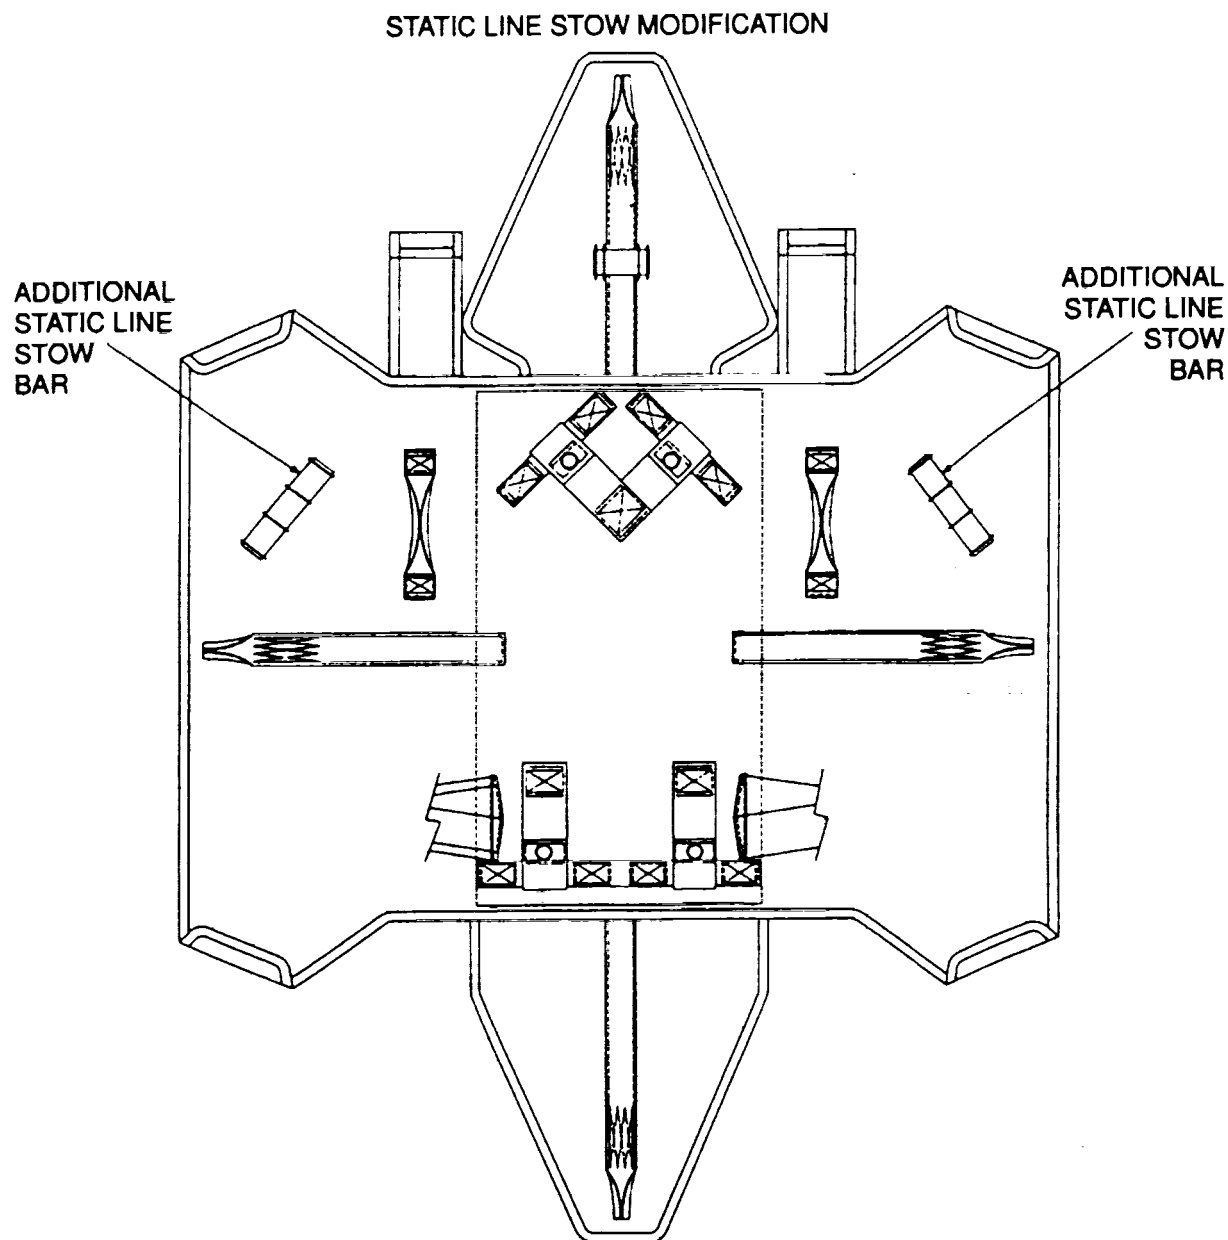

Figure 1.
a. Two (2) static line stow bars are to be installed on each pack tray as shown in Figure 1.
b. All stitching is to be three (3) straight rows, one stitch over edge of webbing, $\frac{3}{16}$ " in from fold-unders, with size E thread, 7 to 11 stitches per inch. Optional stitch pattern: A $\frac{3}{4}$ " bar tack centered on 1" wide Type IV web or a 1" bar tack centered on $1\frac{1}{4}$ " wide Type III tape.